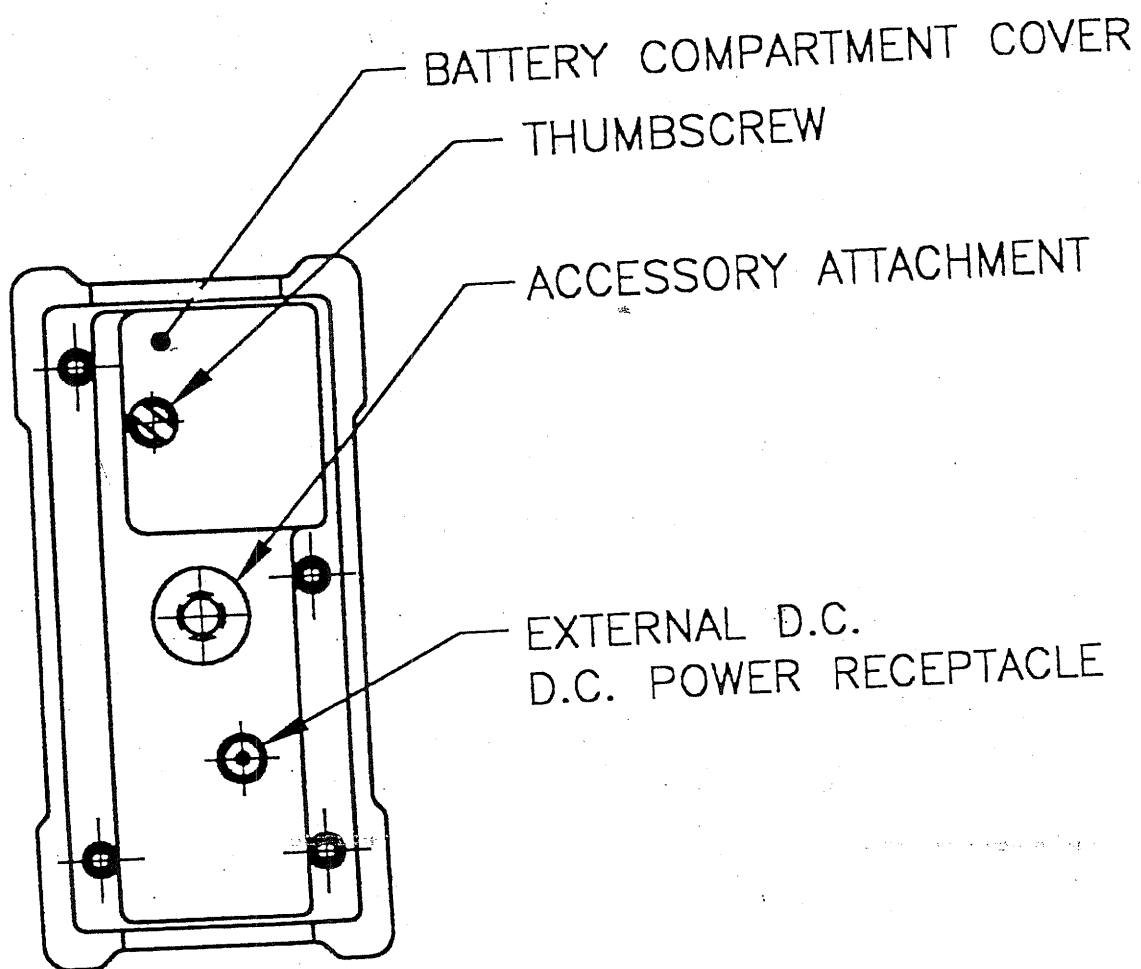

Figure 3 - BOTTOM BASE (MODEL pDR-1000AN)
- Tripod mounted. The unit can be attached to any standard tripod using the threaded bushing on the bottom of the monitor (see Figure 3).
Refer to Figures 3 (for model *pDR-1000AN*) or 4 (for model *pDR-1200*). The base of the *personalDataRAM* contains the following: a) internal battery compartment cover, b) external DC power input receptacle, and c) threaded bushing for the attachment of optional battery pack, tripod, or other mounting/support hardware.
- Loosen thumbscrew that secures the battery compartment cover (see Figure 3 or 4), and remove that cover.
A universal line voltage AC to DC power supply (MIE model *pDR-AC*) is provided as standard accessory with the *personalDataRAM*. This power supply can be used with any line with a voltage between 100 and 240 VAC (50 to 60 Hz). When using that power supply, its output plug should be inserted into the external DC receptacle at the base of the *personalDataRAM* (see Figure 3 or 4). Insertion of that connector automatically disables the internal 9V battery of the instrument. Removal of the *pDR-AC* plug from the instrument automatically re-connects the internal 9V battery.